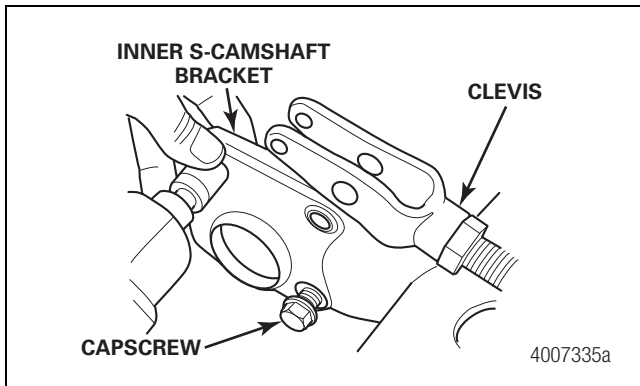

Figure 29
- Use a 3/8-inch drive impact wrench to remove the capscrews on the S-cam shaft inner bracket. Remove the bushing and O-rings. Clean with a wire wheel. Use Loctite® threadlocker when you reinstall the capscrews. Figure 29.